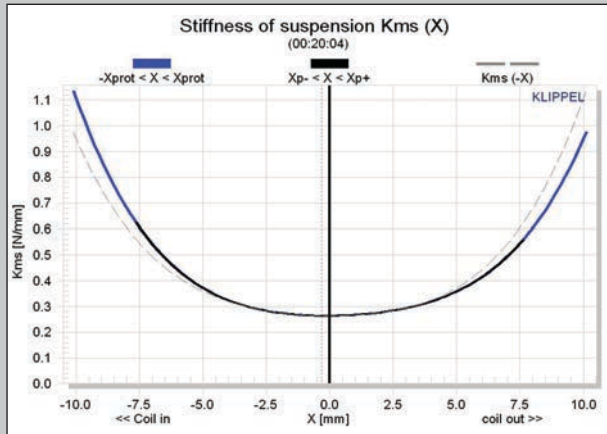

Figure 16: Klippel Analyzer mechanical stiffness of suspension Kms (X) curve for the SB Acoustics MW16R
have not talked about very often is the grey area on the graph. This represents the area of uncertainty for the analyzer. Since BL curves are typically flat until you reach the knee where BL begins to decrease, it is difficult to resolve exactly what is happening to the motor system. **Figure 16** and **17** show the Kms(X) and Kms Symmetry Range curves for the SB Acoustics MW16R. The Kms(X) curve is very symmetrical in both directions, but also with a small rearward (coil-in) offset of about 0.1 mm at the rest position and transitioning to 0.1 mm-coil-out offset at the physical Xmax position. Looking at both sets of data, BL and compliance, the conclusion is likely that the coil is about 1 mm offset from magnetic center. I say this because that is the offset at a place of strong certainty in the measurement at 7 mm.